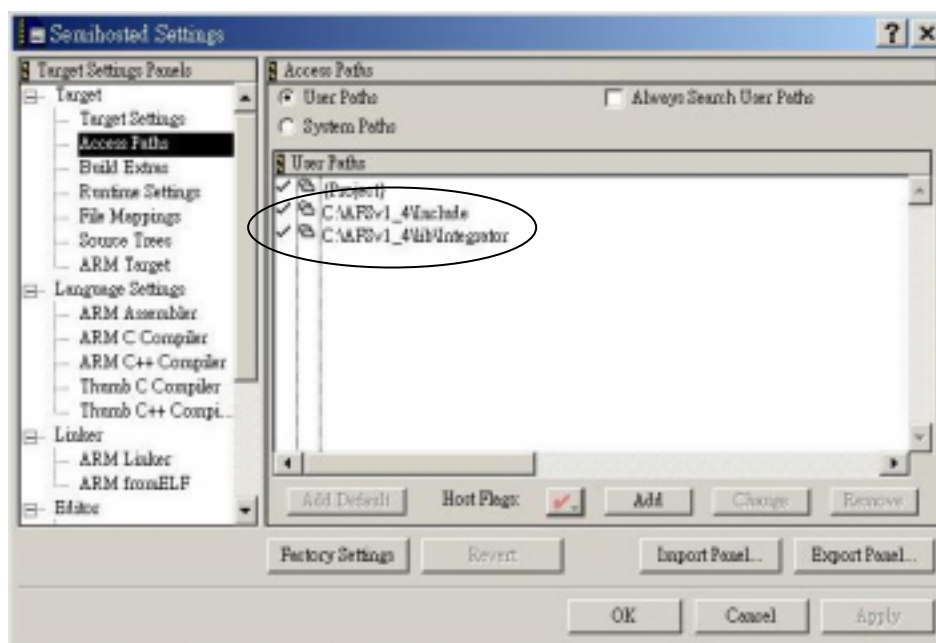

Figure 10 Access Path configuration
- (1) Double click Semihosting on the targets and Semihosted Settings appears (Figure 10).
- (2) Click **Access Paths** in the Target. Hit Add button to add following path: